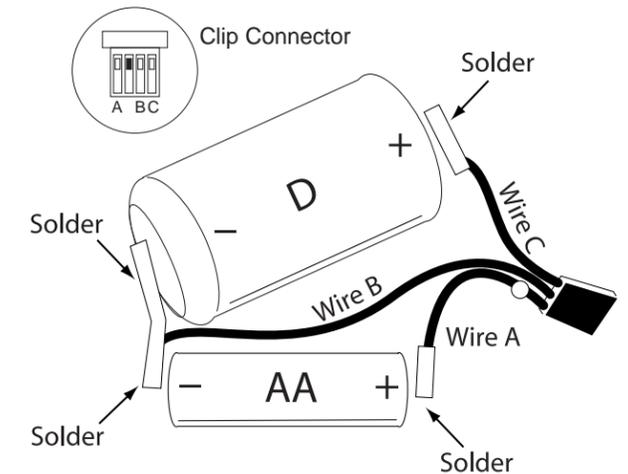

Figure 2: Soldering the batteries and wire assembly.
2. Use the spring clamps to secure the batteries to the work table. Heat up the solder gun. Carefully solder wire assembly to battery cells as shown in Figure 2. Wire A to positive (+) end of AA-cell; Wire B to negative (-) end of D-cell and negative (-) end of AA-cell; Wire C to positive (+) end of D-cell.